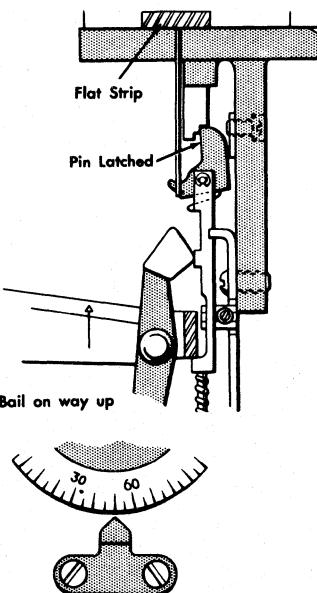

Figure 53. Drive Unit Timing
2. Hold a flat object over all verifying pin openings and turn index to 50° . Remove the object; pins should remain latched down (Figure 53).